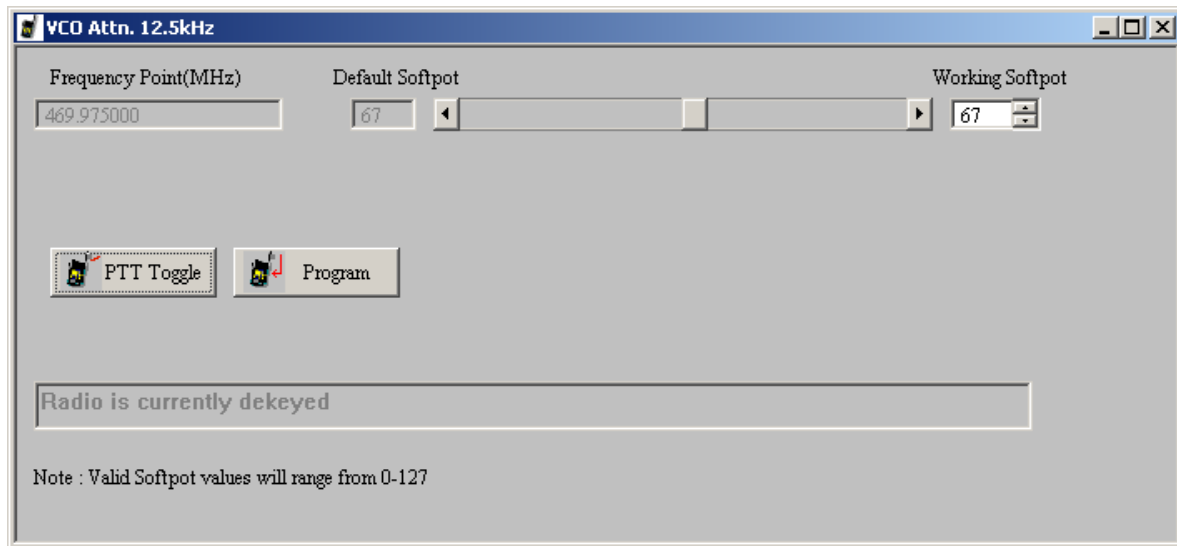

Figure 4-6. VCO Attenuation Window (12.5 kHz)
1. Under the **Tx Align** menu, select **VCO Attenuation 25 kHz** (Figure 4-6).